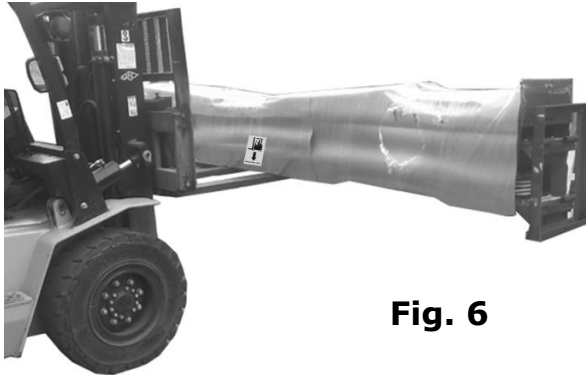

Fig. 6
1.The equipment should be unload and transfer by forklift. (See Fig.6)